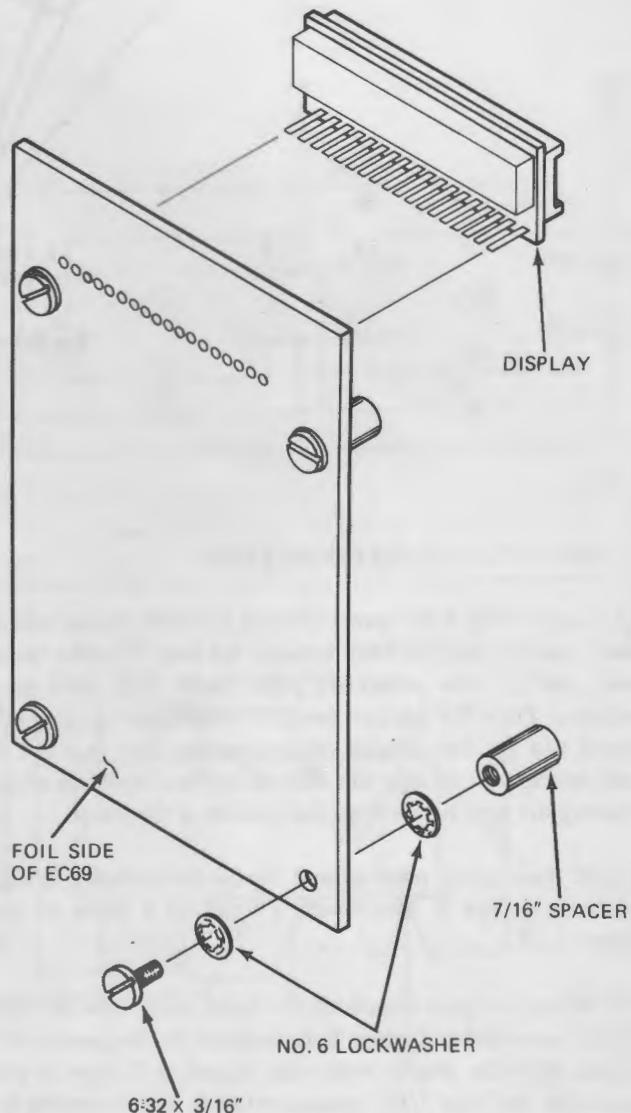

Fig. 7. Installing the display and spacers on EC69.
(7) Install these parts on the frequency counter circuit board as shown in Fig. 7, making sure that the spacers are on the component side of the circuit board. Tighten the screws fully as you hold the spacers with your pliers. Be sure that the screws and lockwashers do not make any circuit bridges between foil sections ..... ( )
(8) Temporarily install the display as shown, but do *not* attempt to solder the display connector pins to the circuit board yet. Set the assembly aside while you prepare the front panel ..... ( )